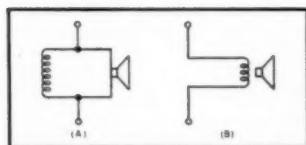

Fig. 1. Symbol proposed by the authors for high-impedance loudspeakers (A) compared with symbol used for conventional speakers (B).
Before beginning consideration of circuits, the authors would like to propose a new circuit symbol to represent a high-impedance speaker, as shown at (A) in Fig. 1. The chief difference between this symbol and the one used to depict a conventional, low impedance speaker, (B), is in the number of turns used to represent the voice coil. One